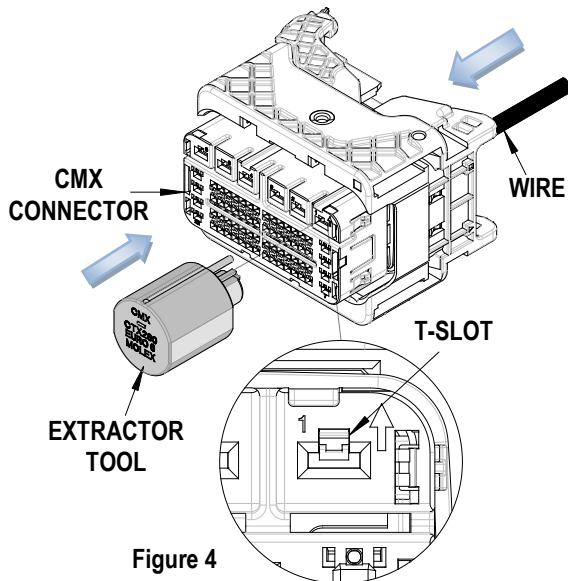

Figure 4
1. Position the blade of the extraction tool into the small "T" slot in the front face of the housing as shown in Figure 4. Use the identifying markings on both the front and back of the connector to locate the opening used to extract the crimped wire.